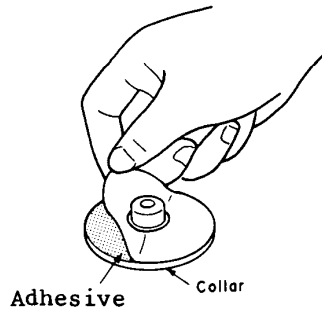

Fig. 2
- (3) Stick the Adhesive Tape to the Collar and peel of the paper as shown in Fig. 2.